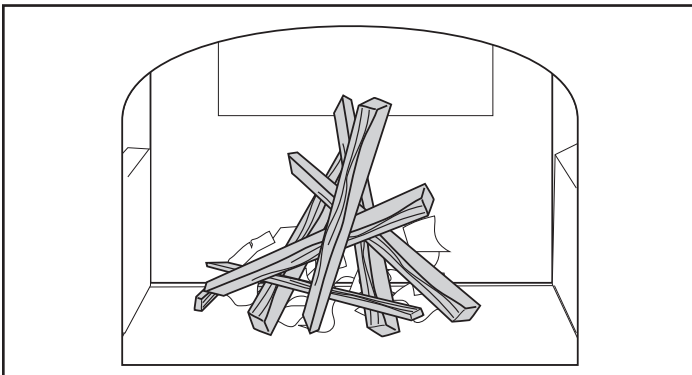

**Figure 2.4** - Start the fire with newspaper and dry kindling.
2. Place several sheets of crumpled newspaper in the stove. Place six or eight pieces of dry kindling split to a finger-width size on the paper. On the kindling, lay two or three larger sticks of split dry wood approximately 1-2" (25-51 mm) in diameter. (Figure 2.4)